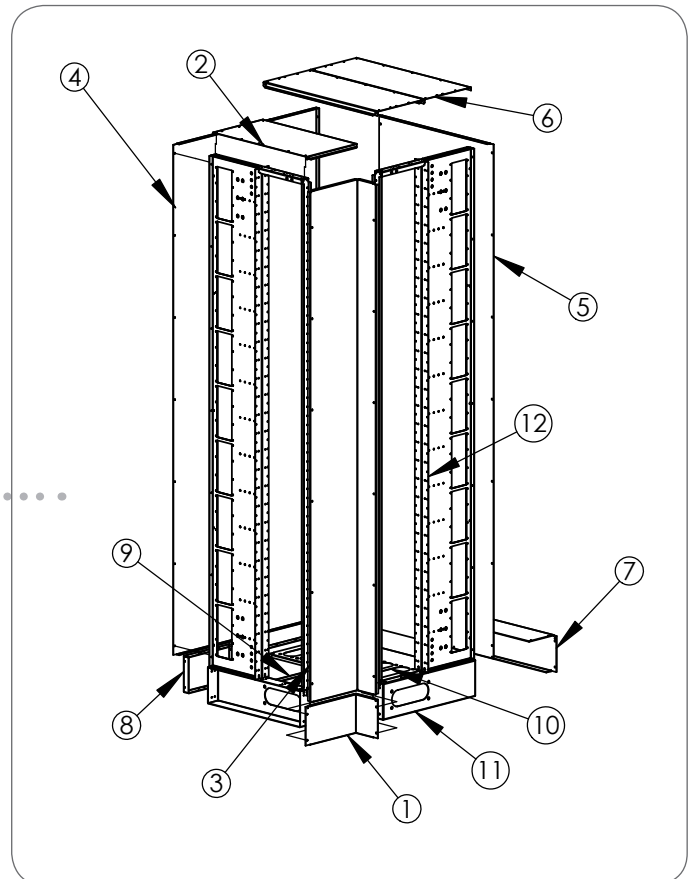

Fig. 2.18 Corner cell parts.
An F-serie cell centre can be made into L shape by using the corner cell structure that consists of cell centre special parts. There is a separate front plate (1), door (3), back plate (4) and roof (2) for corner cells. Figure 2.18 shows the special parts for corner cells.